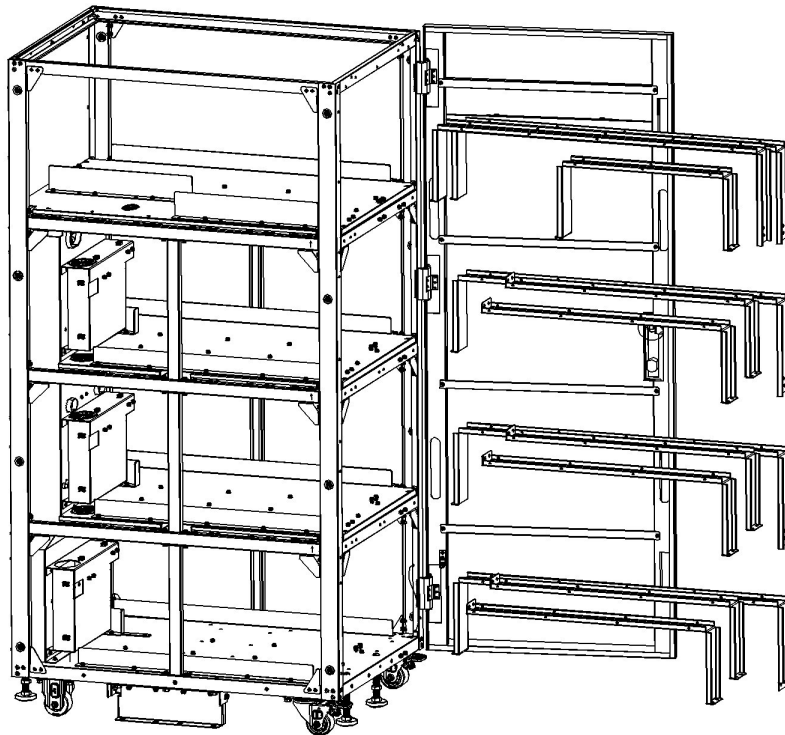

Figure 5-45
3. Remove all screws from the battery retention brackets and remove the retention brackets (Figure 5-45).